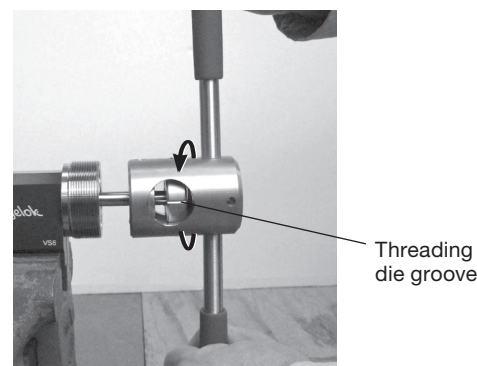

Fig. 40 Advancing the threading tool, turning counter-clockwise
6. Advance the threading tool **counter-clockwise** two full turns, then reverse direction 1/4 to 1/2 turn to break the chips. Use the groove on the threading die as a reference. (Fig. 40)